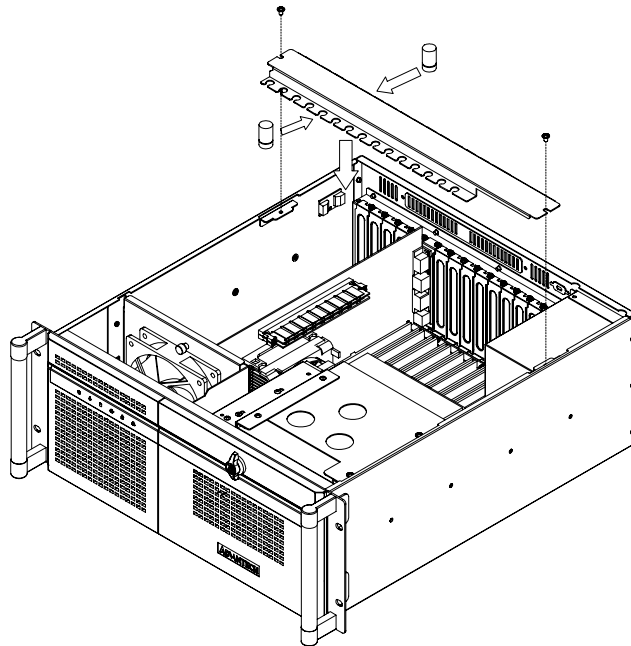

Figure 2.5 Installing rubber cushions and hold-down clamp
1. There are two rows of notches on both sides of the hold-down clamp for inserting into rubber cushions provided in the accessory box. One side is for PCI cards, while the other side is for ISA cards. Depending on the card height, the cushions can be inserted upward or downward. After the rubber cushions have been inserted into the notches, they will stabilize the add-on cards to protect them from shock and vibration. (see Figure 2.5)